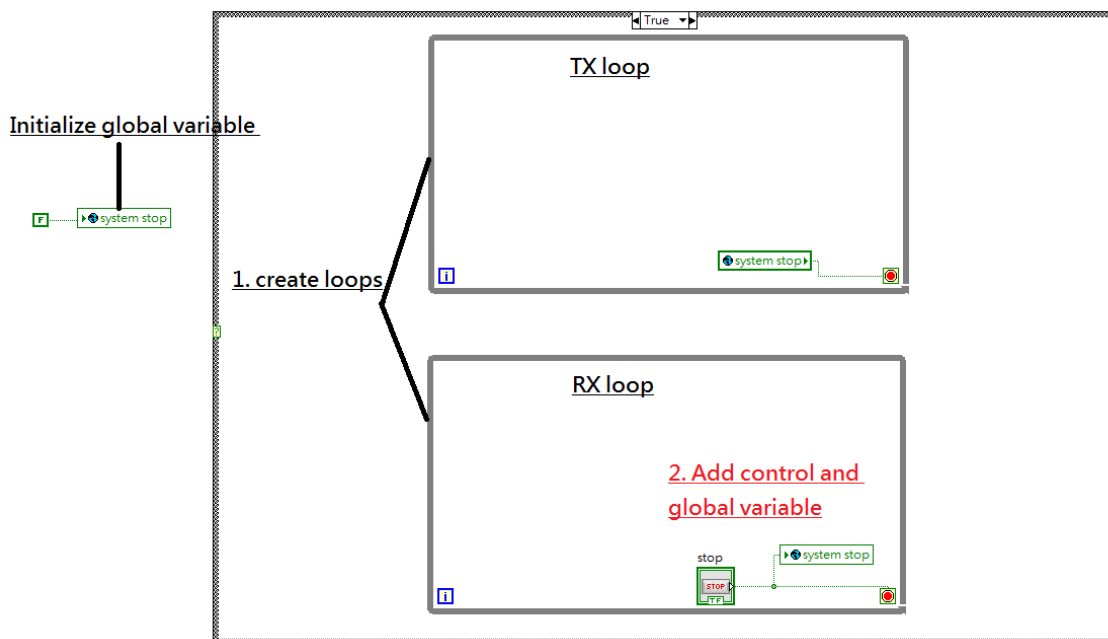

Figure 4: step 1,2 of example 1
- Global variable and event structure:** As you learn from basic LabVIEW programming, the stopping conditions for different loops are independent. However, to make our program clean and convenient to use, there are two approaches to stop multiple loops with single control: 1) global variable and 2) event structure. We use the first method in this example. The block diagram, as a result, is shown in Fig. 4. As for the second method, you can refer to the attached LabVIEW example `event_structure.vi`.